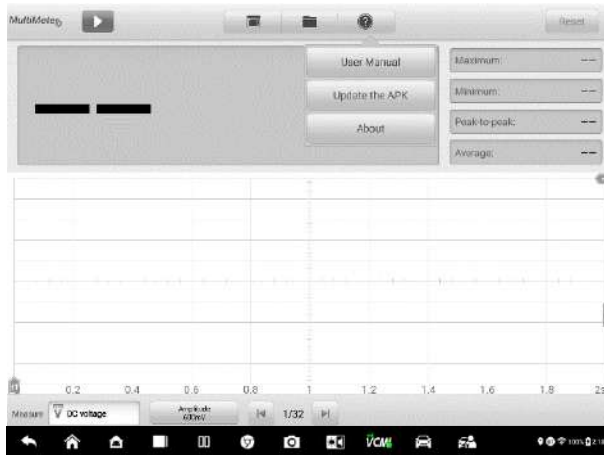

Figure 9-70 Help Screen
1. Insert the applicable test leads or probe terminal ends into the multimeter jacks to complete the connection (refer to Figure 9-70).